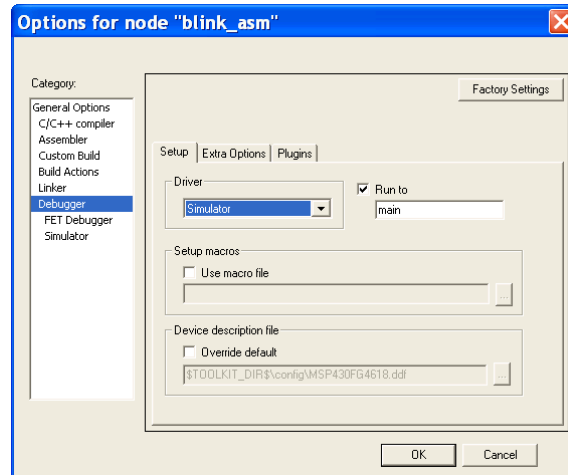

Figure 4. Debugger category.
Step 1: Go to Project>Options and select Debugger category. In the Driver box, choose Simulator (Figure 4). Click OK.